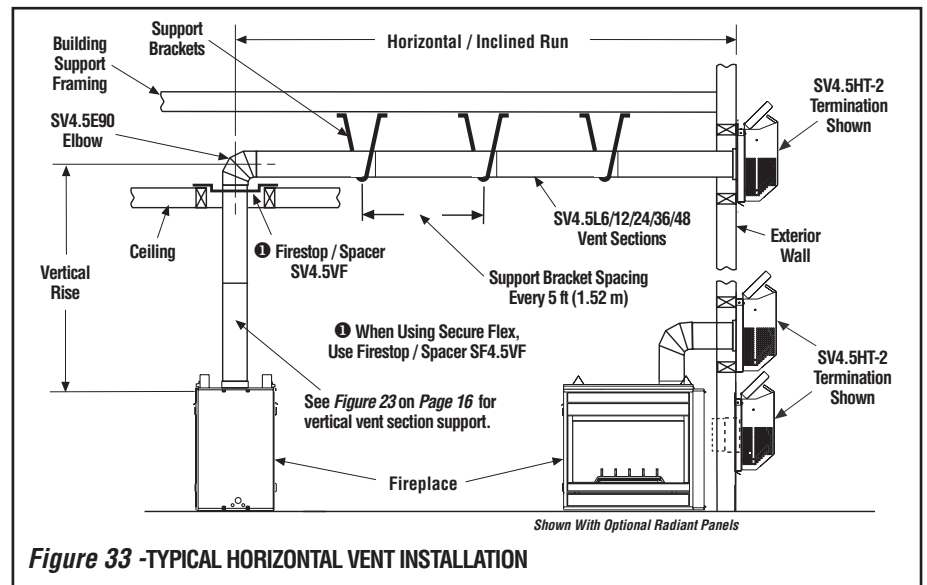

Figure 33 - TYPICAL HORIZONTAL VENT INSTALLATION
Figures 33, and Figures 36 to 41 on Pages 25 to 27 and their associated Horizontal Vent Table illustrate the various horizontal venting configurations that are possible for use with these appliances. **Secure Vent®** pipe applications are shown in these figures; **Secure Flex®** pipe may also be used. A Horizontal Vent Table summarizes each system's minimum and maximum vertical and horizontal length values that can be used to design and install the vent components in a variety of applications.
I. Continue installation of horizontal/inclined sections - Continue with the installation of the straight vent sections in horizontal/inclined run as described in **Step E**. Install support straps every 5 ft. (1.52 m) along horizontal/inclined vent runs using conventional plumber's tape. See **Figure 33**, it is very important that the horizontal/inclined run be maintained in a straight (no dips) and recommended to be in a slightly elevated plane, in a direction away from the fireplace of 1/4" rise per foot (20 mm per meter) which is ideal, though rise per foot run ratios that are smaller are acceptable all the way down to at or near level. Use a carpenter's level to measure from a constant surface and adjust the support straps as necessary.